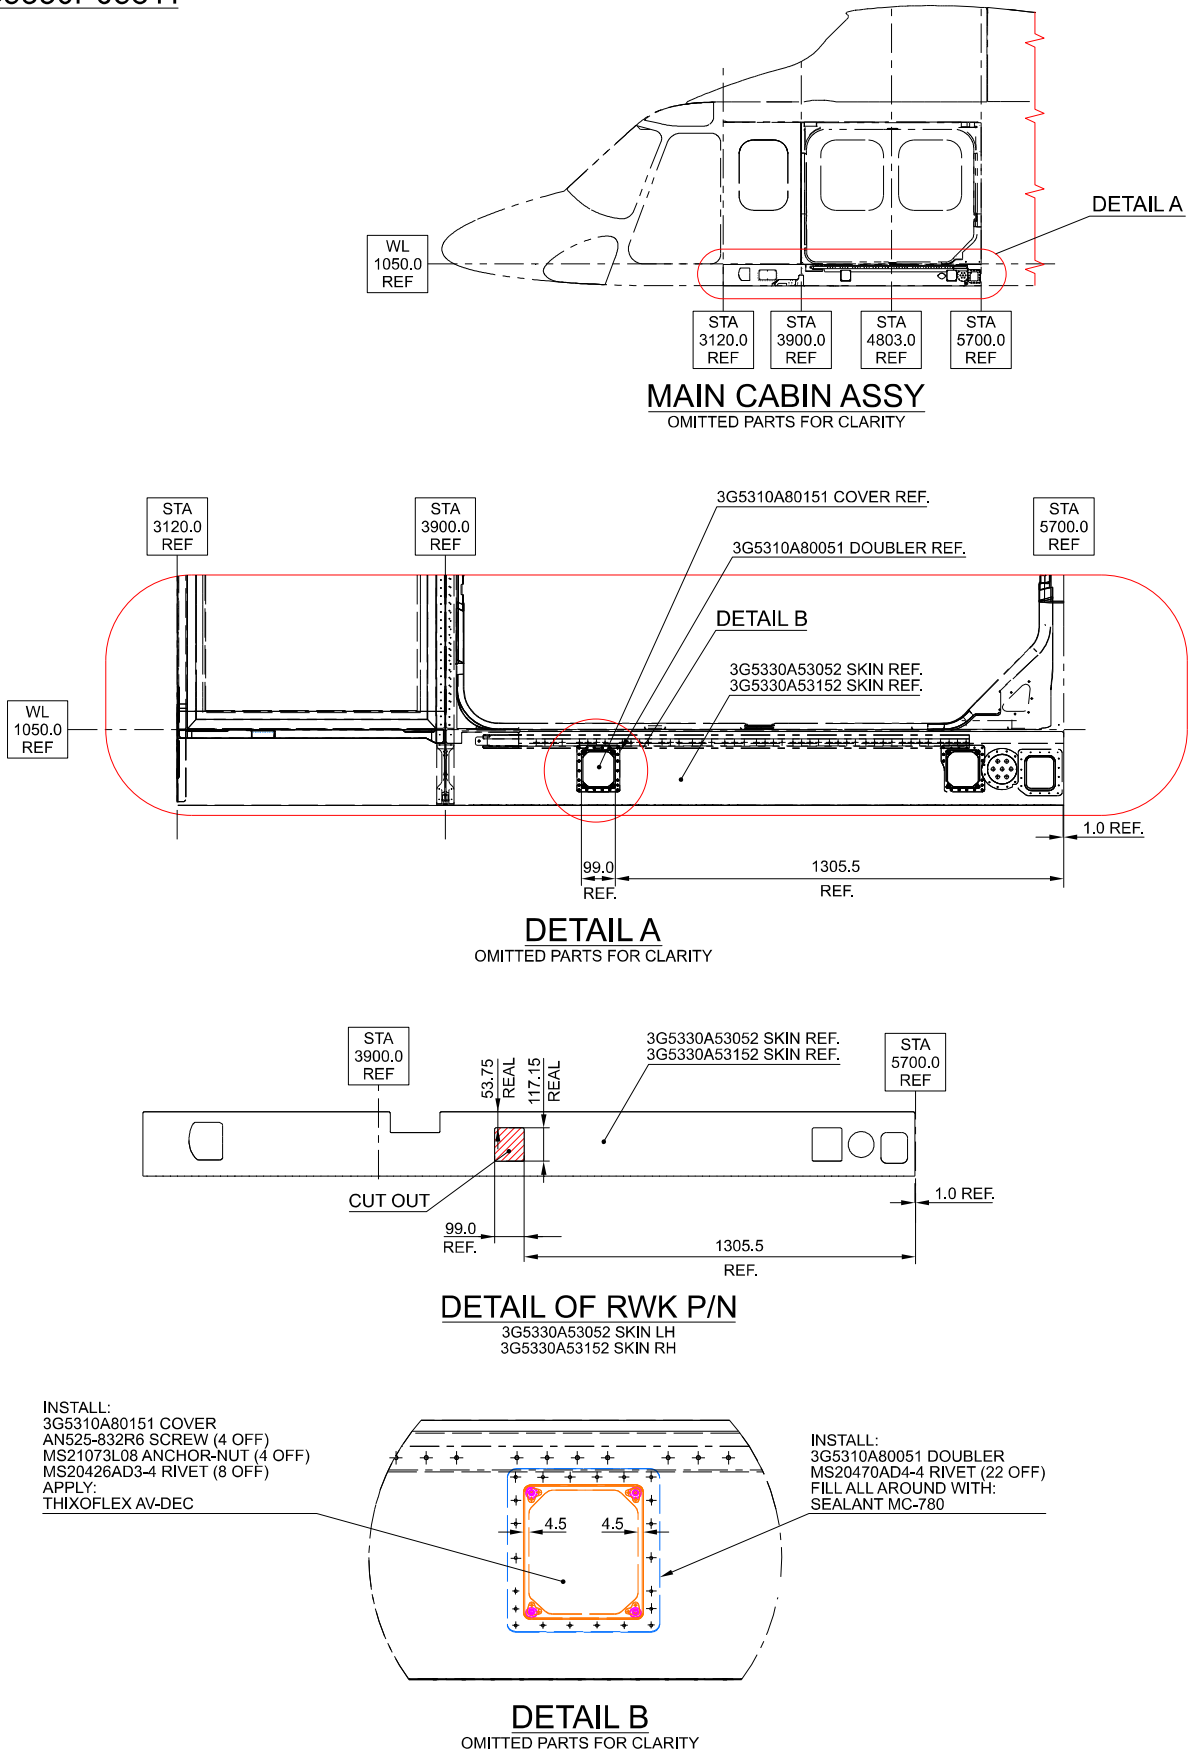

Figure 3
2. In accordance with AMP DM 39-A-06-41-00-00A-010A-A and with reference to Figure 3, gain access to the area affected by installation and perform lower inspection cover STA 3900 retromod P/N 3G5330P05811 as described in the following procedure:
- 2.1 With reference to Figure 3 Detail of RWK P/N, perform n°2 cut-outs on the skin LH P/N 3G5330A53052.
- 2.2 With reference to Figure 3 Detail A and Detail B, install n°4 anchor nuts P/N MS21073L08 on the doubler P/N 3G5310A80051 by means of n°8 rivets P/N MS20426AD3-4.
- 2.3 With reference to Figure 3 Detail A and Detail B, temporarily locate the doubler P/N 3G5310A80051 on the skin LH P/N 3G5330A53052, countermark and drill n° 22 rivet holes.
- 2.4 With reference to Figure 3 Detail A and Detail B, install the doubler P/N 3G5310A80051 on the skin LH P/N 3G5330A53052 by means of n°22 rivets P/N MS20470AD4-4.
- 2.5 With reference to Figure 3 Detail A and Detail B, fill all around the doubler P/N 3G5310A80051 by means of the Naftoseal MC-780 (C355).
- 2.6 With reference to Figure 3 Detail A and Detail B, install the cover P/N 3G5310A80151 on the doubler P/N 3G5310A80051 by means of n°4 screws P/N AN525-832R6.
- 2.7 With reference to Figure 3 Detail A and Detail B, apply the sealant (C347) along the perimeter of the cover P/N 3G5310A80151.
- 2.8 With reference to Figure 3 Detail of RWK P/N, repeat step 2.1 to rework the skin RH P/N 3G5330A53152.
- 2.9 With reference to Figure 3, repeat steps from 2.2 thru 2.8 to install the cover P/N 3G5310A80151 and the doubler P/N 3G5310A80051 on the RH side.